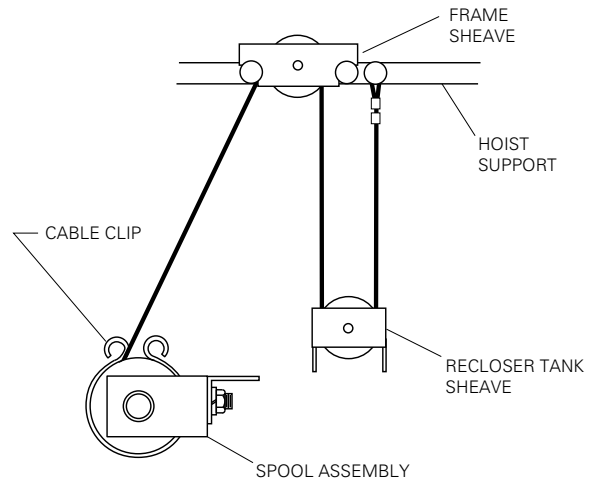

Figure 10. Threading the cable from the frame sheaves to the spool assemblies.
- Remove the hex nut from the stud end of each cable assembly (Item 4) and thread the cable through the tank sheave (Item 3), then up through the frame sheave (Item 2), and into the hole in the cable spool as shown in Figure 10.
2. If the lifting windlass is to remain installed after the tank has been bolted to the head, install the provided cable clips over the two cable spools (Figure 10).